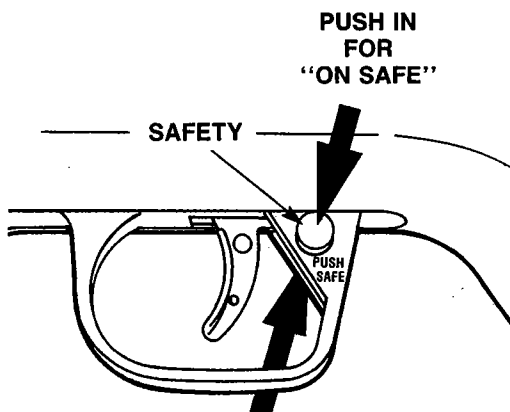

FIG. 1
A. To put the rifle "On Safe", locate the safety directly behind the trigger. Push the safety from the left side all the way in. (Fig. 1). The safety is not on unless it is pushed all the way in and the red ring around the safety is not showing. The rifle will not fire when "On Safe".